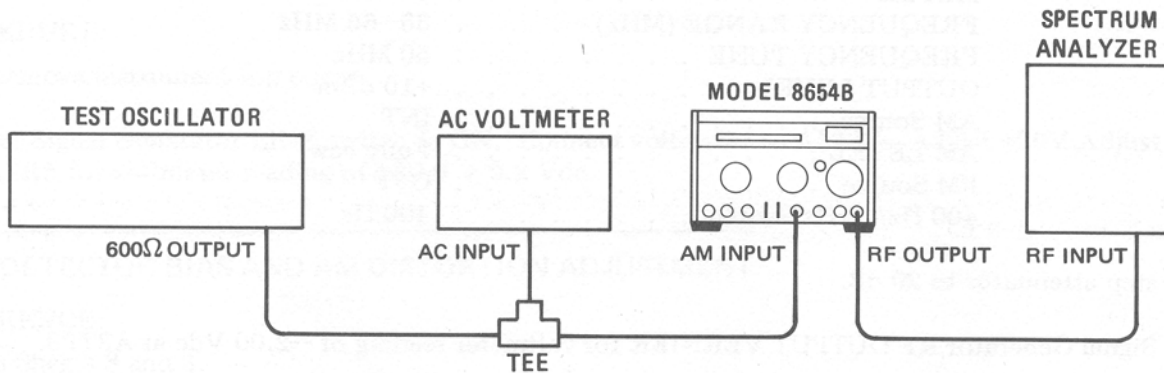

Figure 5-2. AM Sensitivity Adjustment Setup
1. Connect equipment as shown in Figure 5-2, after setting Signal Generator controls as follows:
5. Use a non-metallic tuning tool inserted in the slotted end of the tuning capacitor shaft (C3) to adjust the low frequency foldback as read on the counter, from 5 to 10 kHz beyond the frequency minimum. The frequency will be approximately 9.5 MHz and the capacitor blades will be almost fully meshed (refer to Figure 5-2).